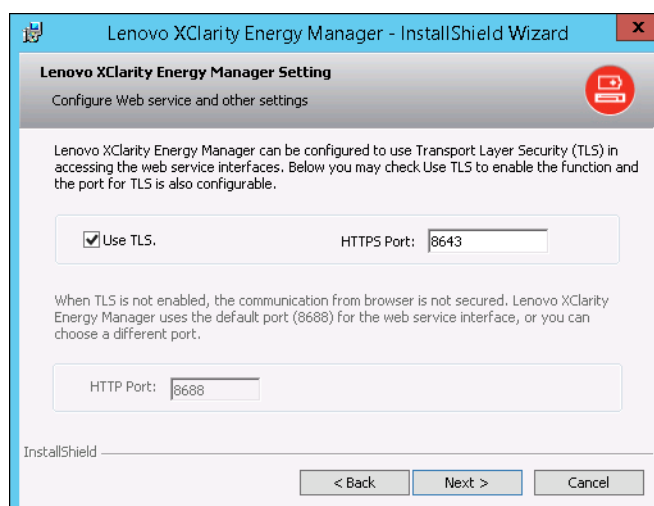

Figure 7-28 Configure web service
7. Specify the port to be used for the web service that will be used to access the Energy Manager interface in Figure 7-28. By default, TLS (Transport Layer Security) is set to enabled. When TLS is enabled, Energy Manager communicates via port 8643 by default. If TLS is disabled, the communication from the browser is not secure. The port used by default when TLS is disabled is 8688. If this port is already in use you can set a different port. Click **Next** to continue the installation.
Enter the following default URL in a supported web browser to launch the Energy Manager if you enabled Transport Layer Security (TLS) during the installation procedure as shown in Figure 7-28 on page 244. Enter the port you specified during installation if you didn't accept the default.